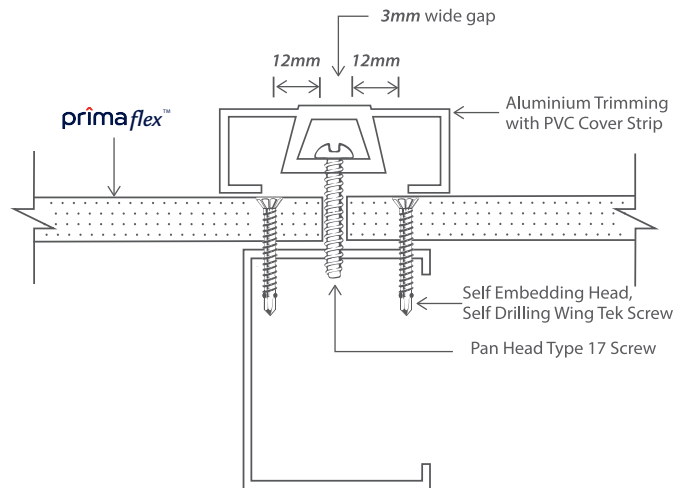

Figure 2.8: Aluminum Extrusion Joint
5. When **primaflex™** is applied as internal wall lining, the joint may also be decorated with aluminium extruded profile as shown in **Figure 2.8**.